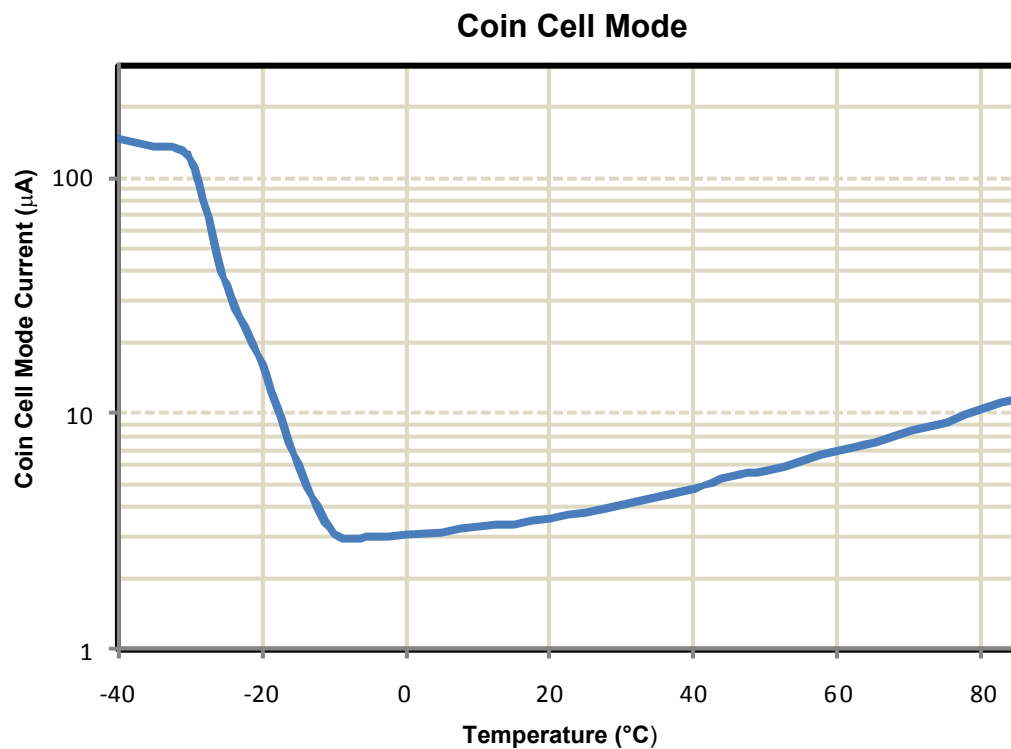

Figure 4. Current Over Temperature Waveforms
16. Refer to Figure 4 for Coin Cell mode characteristics over temperature.